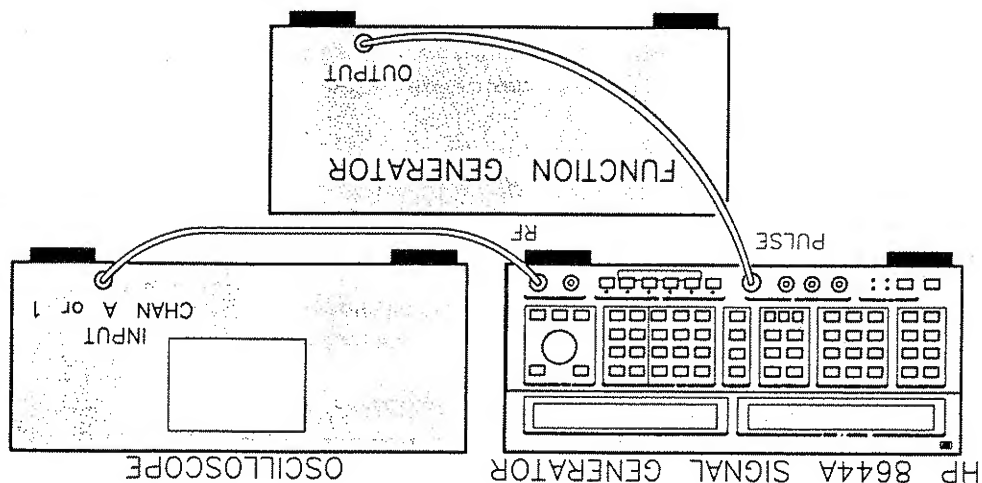

Figure 2-7. Equipment Setup for Pulse Modulation Procedure.
1. Connect the HP 8644A to the Oscilloscope and Function Generator as shown in figure 2-7. Turn on the equipment and make the following adjustments: